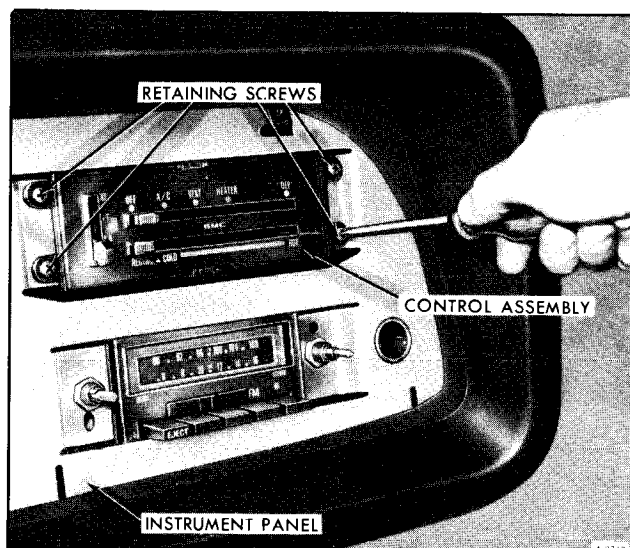

Figure 33—Removing Control Assembly
3. Remove four screws holding control assembly to instrument panel (figure 33).